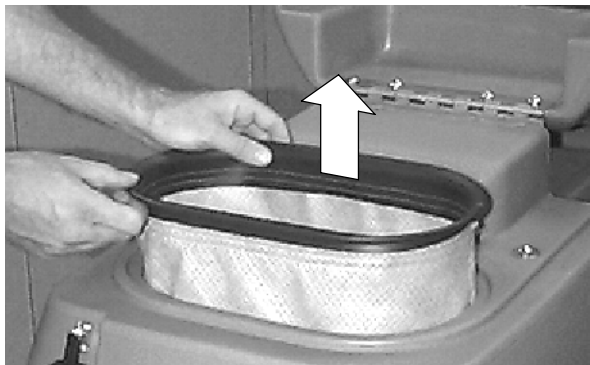

FIG. 9
1. Open machine cover and remove vacuum bag from recovery tank (Figure 9).